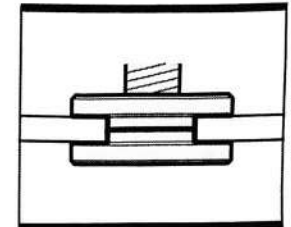
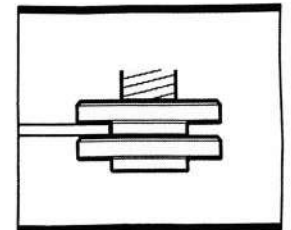

Fig. E1
Fig. E2
4 ADJUSTABLE OUTER FLANGE CLAMPING (SEE FIG. E1, E2)
The outer flange (7) should be adjusted to suit different disc thickness. For thinner cutting or diamond discs the raised part of the outer flange is fitted facing away from the disc (See Fig. E1). For thicker grinding discs the raised part of the outer flange is fitted facing towards the disc to provide improved support for the disc hole (See Fig. E2). Always ensure your disc is securely clamped.